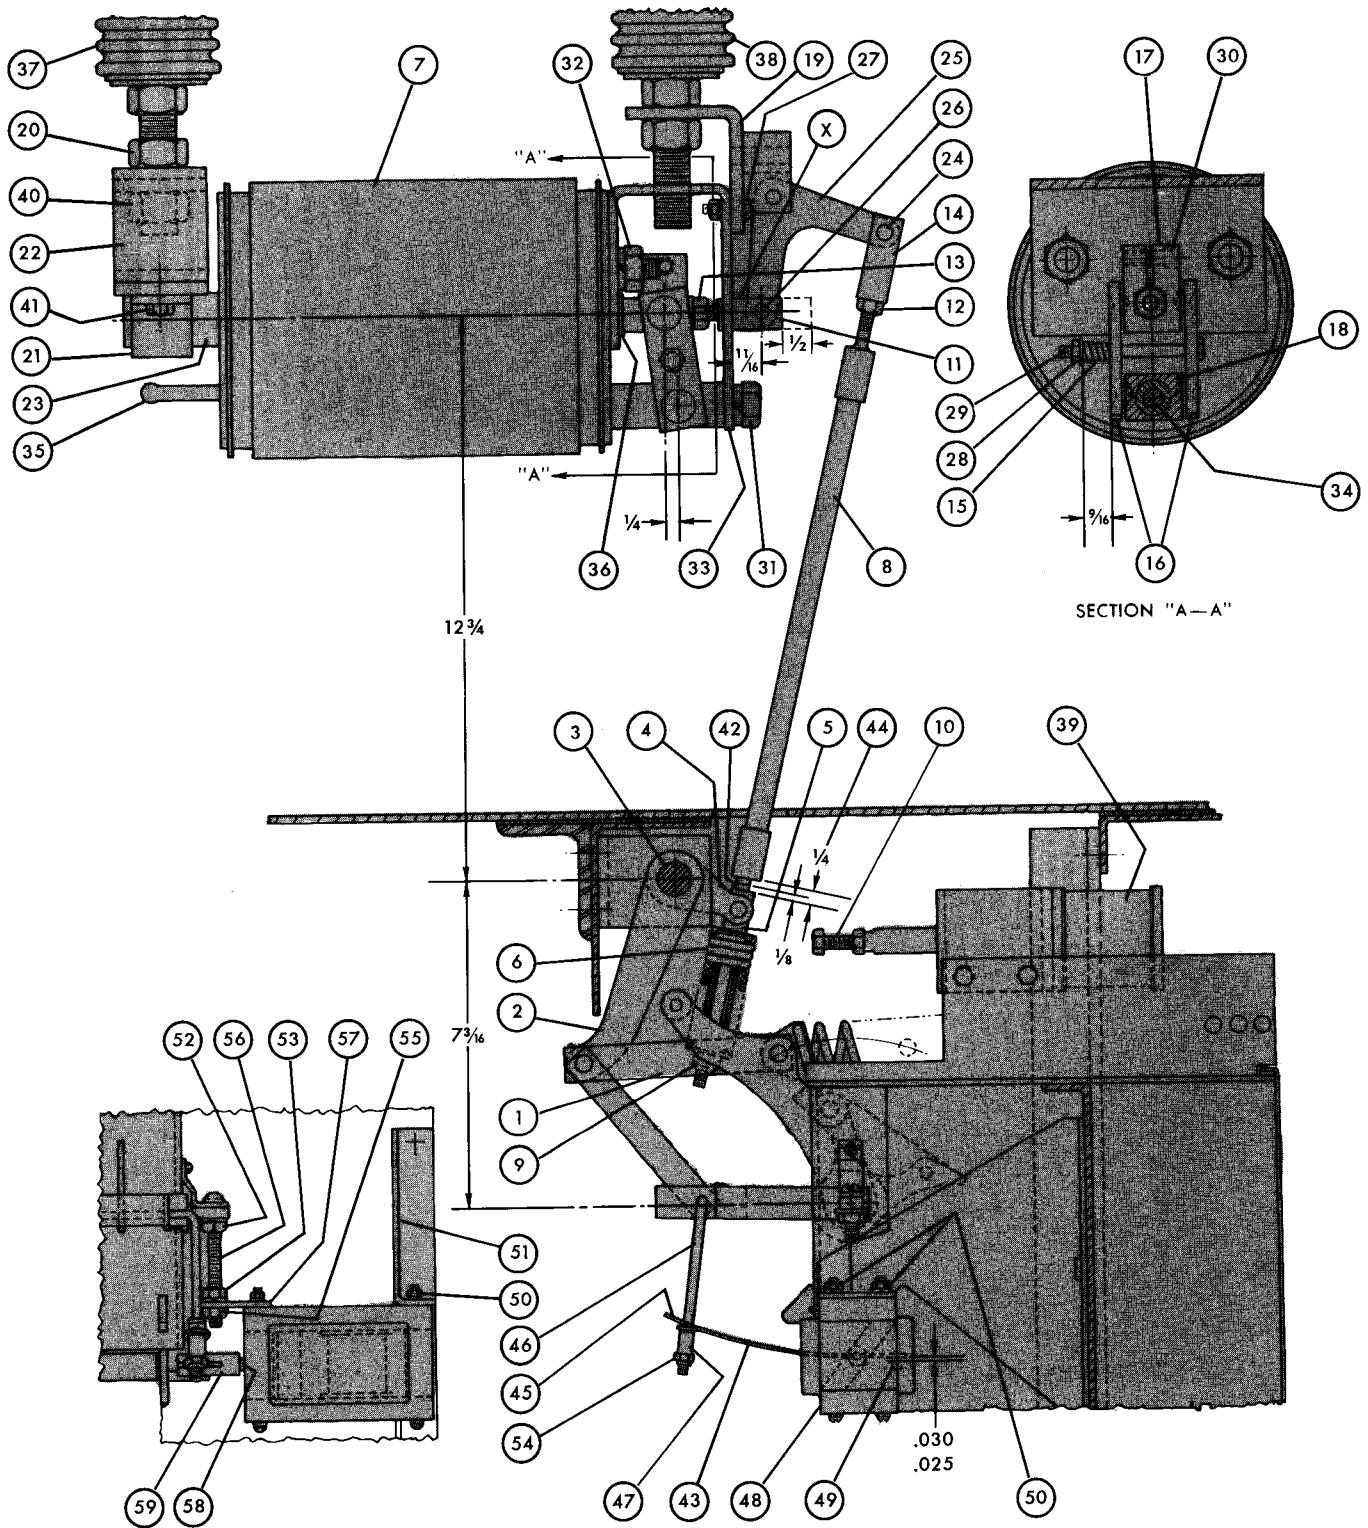

Fig. 18. Vacuum Interrupter and Mechanical Linkage.
VACUUM INTERRUPTER ASSEMBLY (Figure 18)
1. Assemble SPACER NUT (34) on stud, making sure the SEAL TUBE (35) is in location as shown in Figure 18.
2. Slide CONTACT BLOCK (18) on SPACER NUT (34).
3. Assemble SUPPORT PLATE (33) and CONTACT BLOCK (17) together. Counterbored end of (17) goes toward vacuum interrupter and turn clockwise. *Important:* Be sure to include the NYLON BEARING (36) with SUPPORT PLATE (33).
4. Assemble BOLT (31) and NUTS (32) with lockwashers and secure.
5. Turn in CONTACT BLOCK (17) until the center of the tapered contact indent in each side is $\frac{1}{4}$ " nearer to the interrupter than is the center of the tapered groove in CONTACT BLOCK (18) as shown. *Important:* Be sure the side surfaces of the CONTACT BLOCKS (17) and (18) line up with each other (i.e. form a common plane) and secure LOCKING BOLT (30). Loosen BOLT (31) and retighten if necessary.
6. Assemble current-carrying LINKS (16), BOLT (29), NUT (28) and SPRING (15) as shown in section A-A.
7. Assemble CLEVIS (11) with NUT (13) loosely as shown, avoiding transfer of torque to the moving contact and its bellows.
BUSHING ASSEMBLY (Figures 18 and 19)
When installing the new bushing assembly items (37) and (38) (see Fig. 18), observe the precaution described under "Vacuum Interrupter Assembly" so as to position the height of the SUPPORT BRACKET (22) in a manner to avoid strain upon the interrupter assembly.
MAGNETIC LATCH ASSEMBLY (Figure 18)